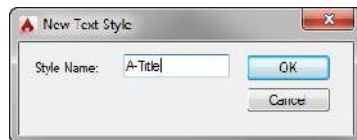

FIGURE 8.4: Setting the name for the new text style
4. Enter A-Title in the Style Name text box, as shown in Figure 8.4.